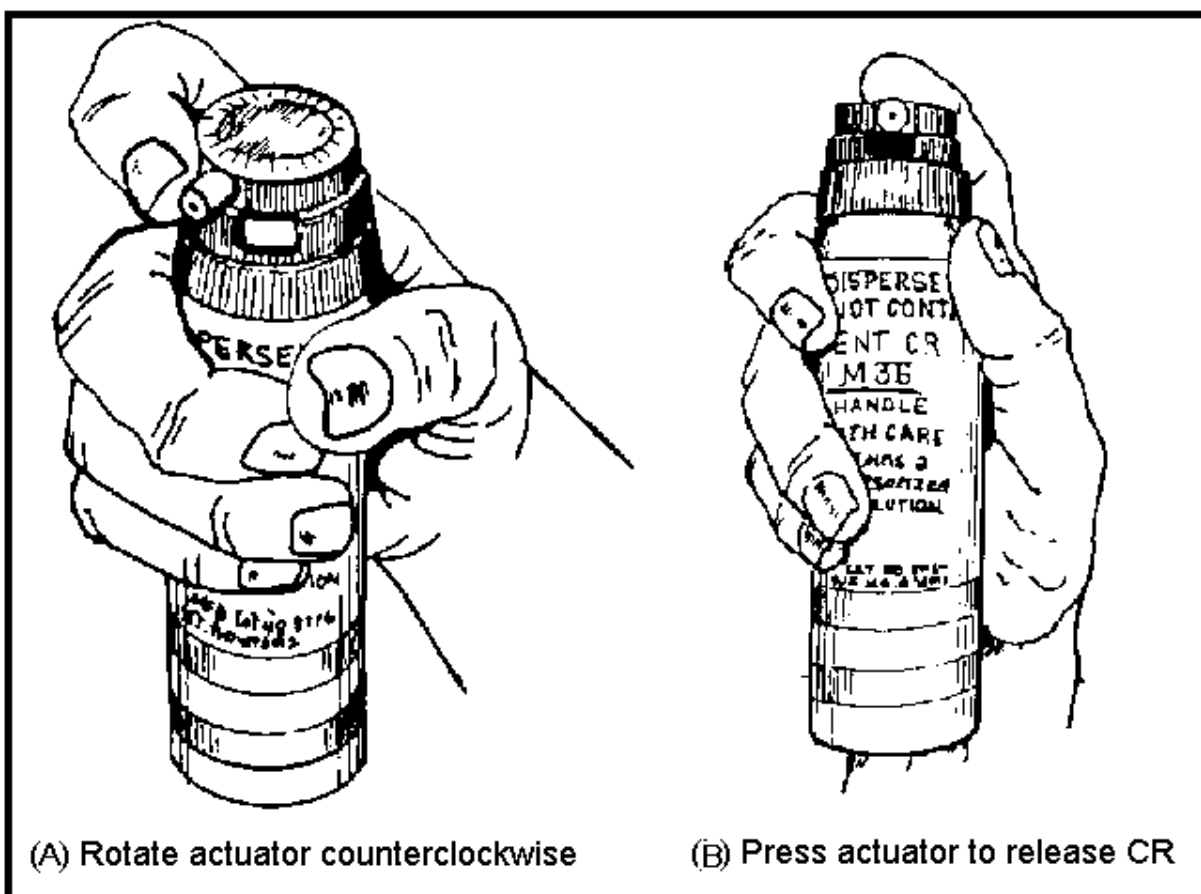

Figure 191-376-4119-3
- b. Break the seal and unlock by rotating the actuator counterclockwise as shown in Figure 191-376-4119-3 (A).